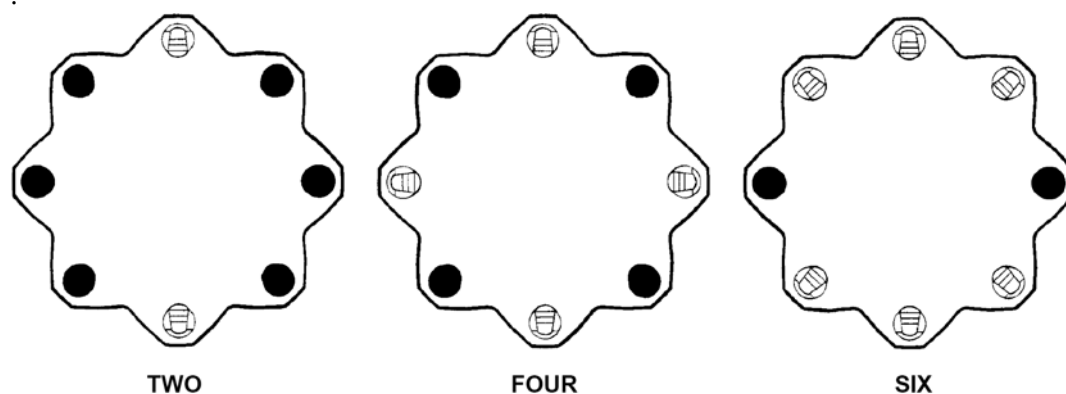

Figure 4-1. Rotor Balancing
- m. When using less than a full complement of eight tube/cartridge assemblies, the rotor can be operated at any speed up to its maximum speed with two, four, or six samples; however, opposing pairs of tube/cartridge assemblies must be positioned as shown in Figure 4-1.